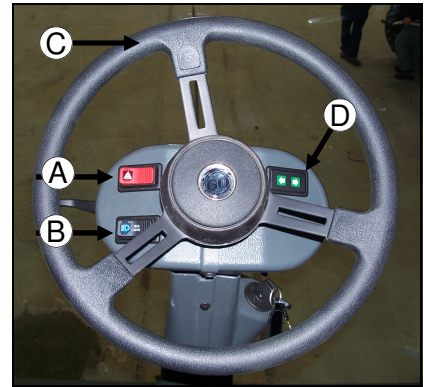

FIG. 18-1
**HAZARD/ WARNING LIGHTS**—To activate the flashing hazard/ warning lights (fig. 18-5 and fig. 18-6) depress the “FLASHER” switch (fig. 18-1, item A). Activate the hazard/ warning lights anytime, day or night, that you are traveling on a public road unless prohibited by law.
traveling on a public road at night. Turn them on using the highway/running light switch located on the front console (fig. 18-1, item B).